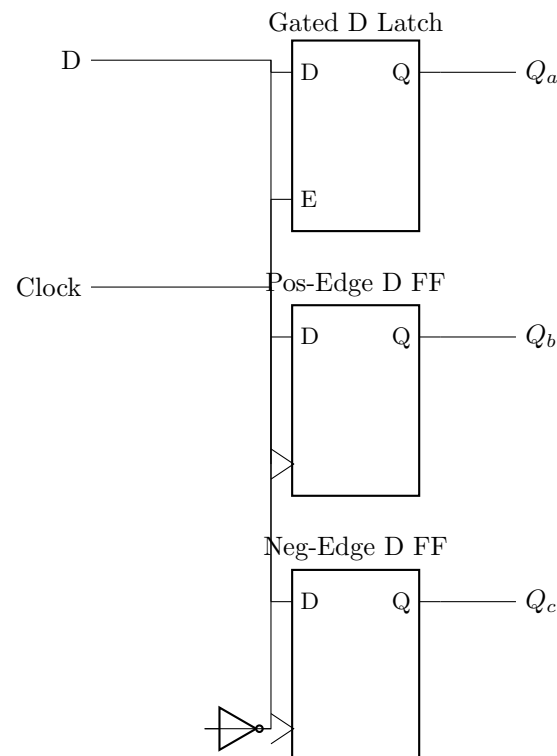

Figure 7: Circuit for Part IV.
Figure 7 shows a circuit with three different storage elements: a gated D latch, a positive-edge triggered D flip-flop, and a negative-edge triggered D flip-flop.
7. Create a Vector Waveform File (.vwf) that specifies the inputs and outputs of the circuit. Draw the inputs D and Clock as indicated in Figure 7. Use functional simulation to obtain the three output signals. Observe the different behavior of the three storage elements.